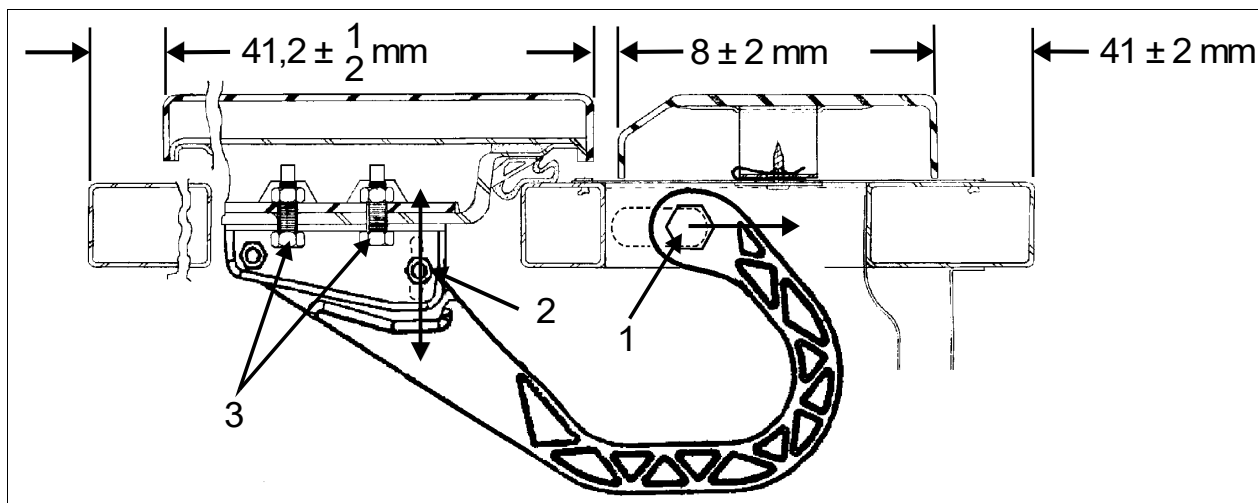

FIGURE 76: EVAPORATOR DOOR
2. Loosen nut (1, Figure 76).
4. Tighten nut (1, Figure 76).
5. Loosen nut (2, Figure 76). Hinge allows the door to be shifted "IN or OUT".
7. Loosen screws (3, Figure 76). Screws allow the door to be shifted "UP or DOWN".